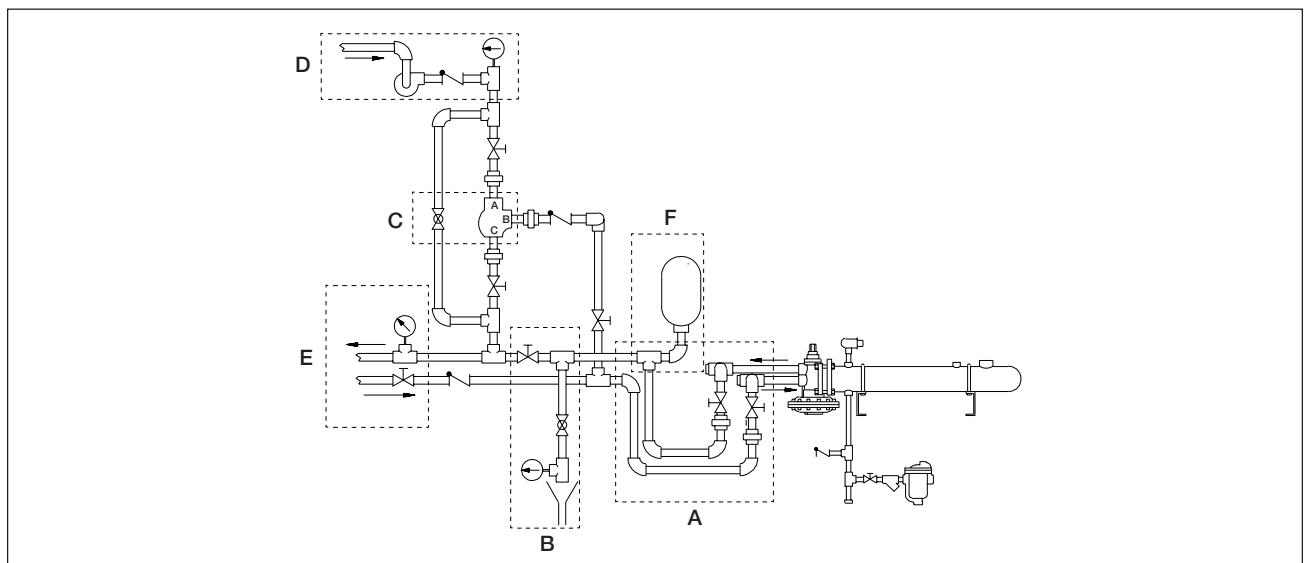

Fig. 3-1
2. If the unit is connected to a system which has a recirculation loop and pump, be sure the pump is turned off and the isolation valve on the leg of piping going from the diverting valve back to the inlet of the FLO-RITE-TEMP is closed (this is the isolation valve downstream of port "B" of the thermostatic diverting valve). (See Fig. 3-1)